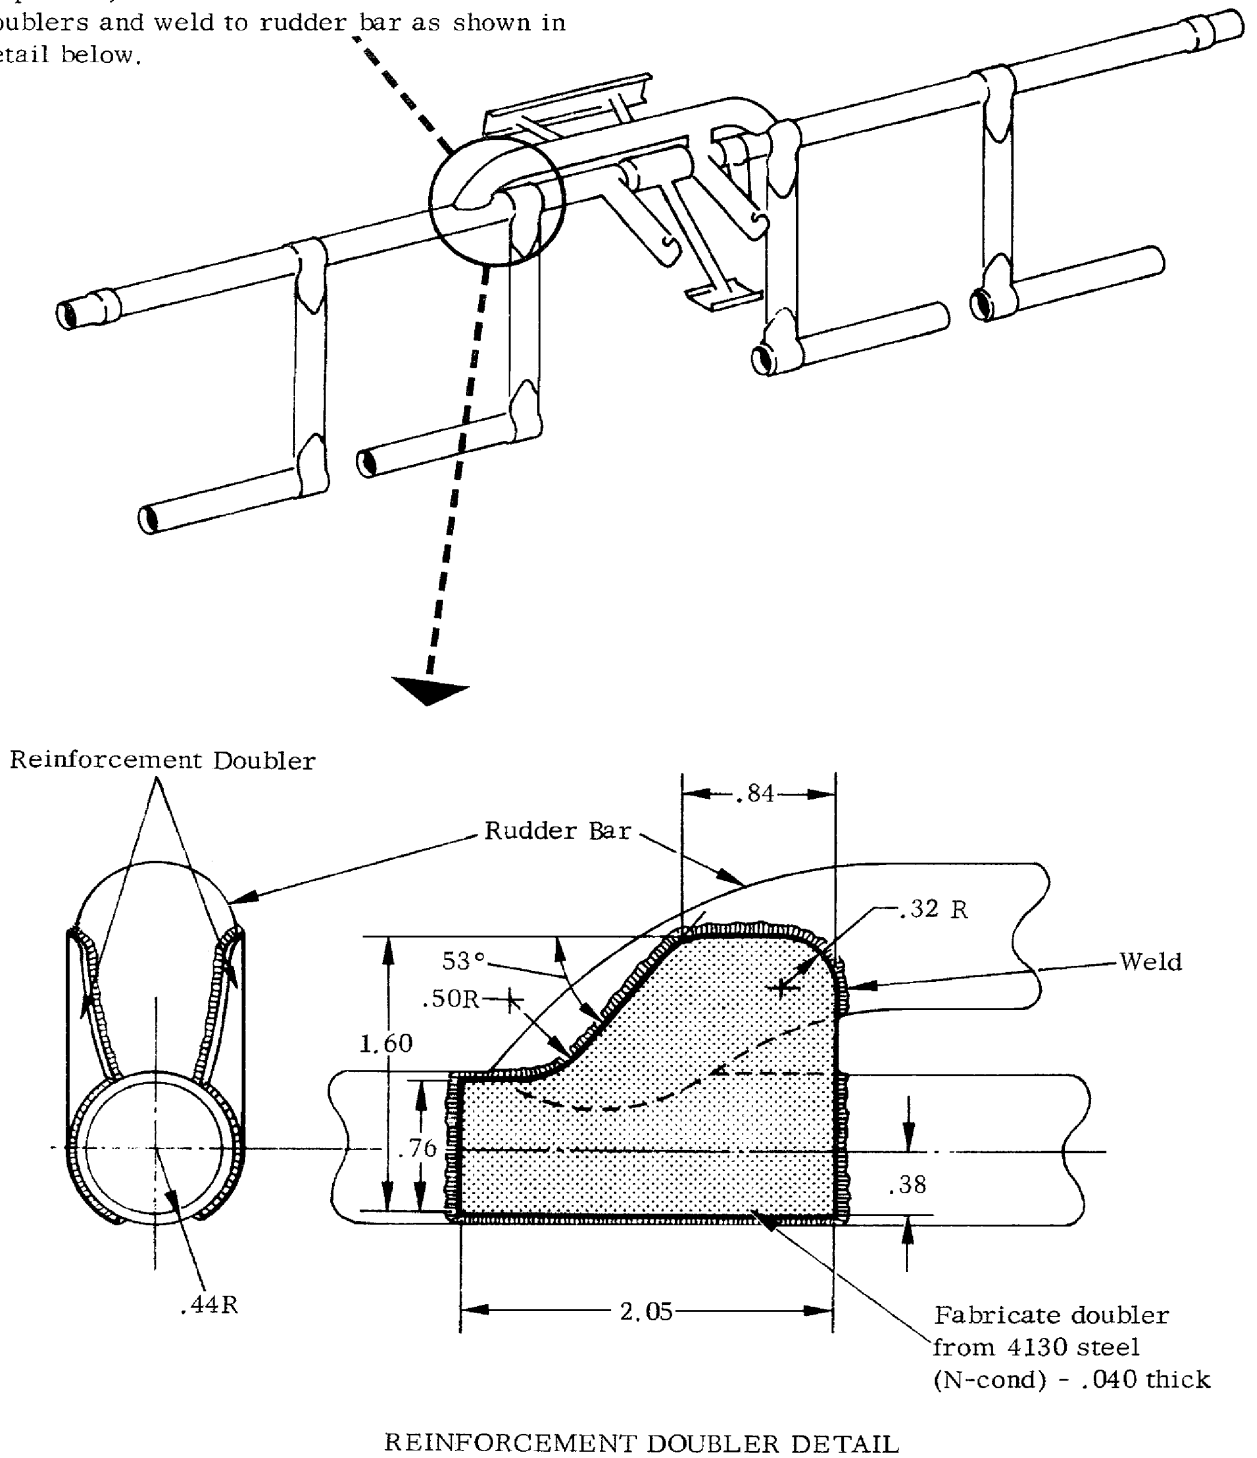

Figure 3-25. Rudder Bar Assembly 100 Inspection
### (24) RUDDER BAR ASSEMBLY 100 HOUR INSPECTION. (Refer to Figure 3-25.)
**NOTE:** The fabricated reinforcement doublers shown in Figure 3-25, can be installed simply to relieve this repetitive inspection requirement, even though no cracks have been detected. Keep in mind, however, that a general visual inspection of the rudder bar assembly for condition and operation is a normal 100 hour inspection requirement.
- (a) If cracks are detected, remove rudder bar assembly from the airplane and repair as shown in Figure 3-25.
- (1) Reinstall rudder bar assembly.
- (2) Make proper log book entry.